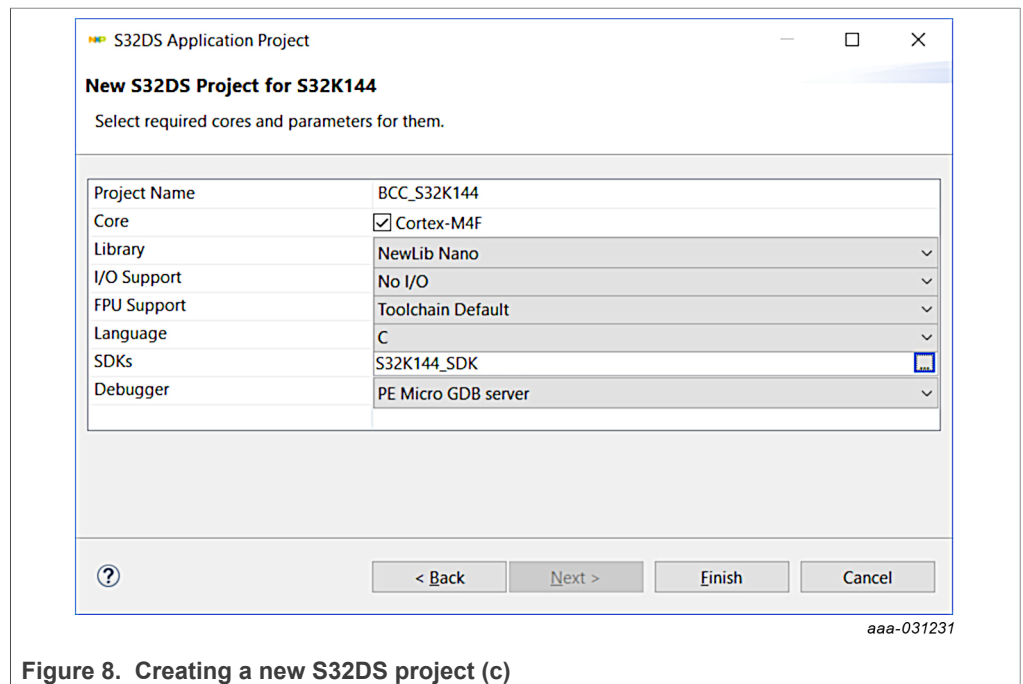

Figure 8. Creating a new S32DS project (c)
- 3. Click **NewLib Nano** library, **S32K144_SDK (version 3.0.0)** SDK and click **Next**. See Figure 8.